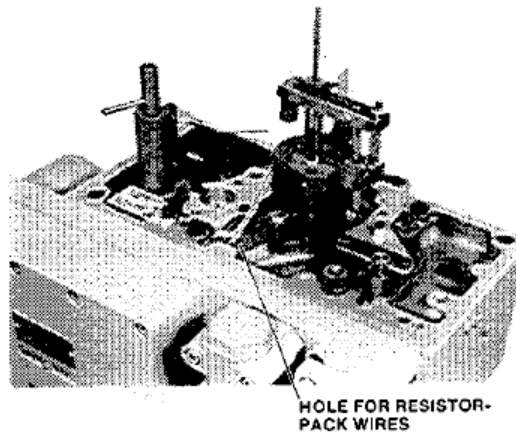

Figure 5-43. Wires Threaded into Column
14. Secure commutator plate, and wire retainer to resistor pack with screws and nuts (Figure 5-43).